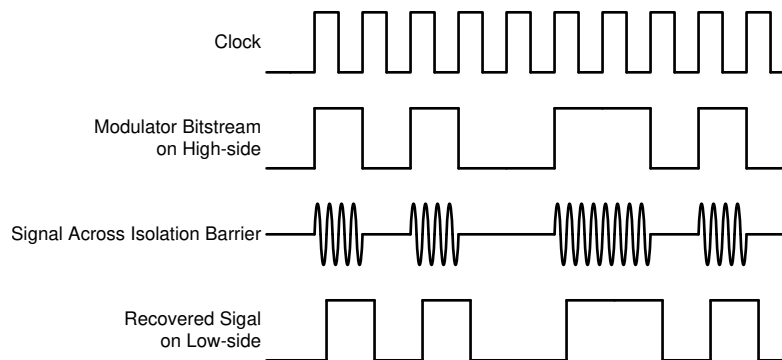

Figure 7-3. OOK-Based Modulation Scheme
The AMC3306M25 uses an on-off keying (OOK) modulation scheme, as shown in Figure 7-3, to transmit the modulator output bitstream across the SiO₂-based isolation barrier. The transmit driver (TX) illustrated in the Functional Block Diagram transmits an internally generated, high-frequency carrier across the isolation barrier to represent a digital *one* and does not send a signal to represent a digital *zero*. The nominal frequency of the carrier used inside the AMC3306M25 is 480 MHz.
Figure 7-3 shows the concept of the on-off keying scheme.